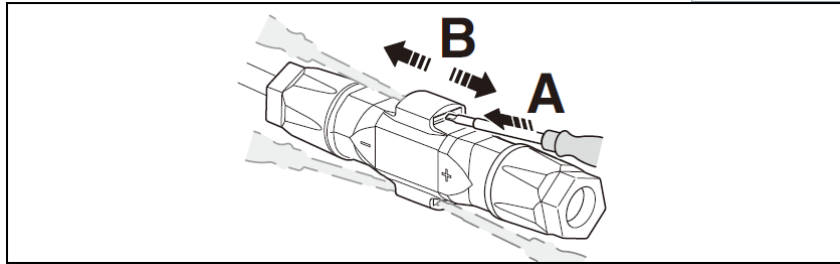

Figure 5-14
- 1). Insert the screwdriver into one of the four openings(Figure 5-14, A).
- 2). Leave the screwdriver in the opening. Pull the two connectors apart(Figure 5-14, B).